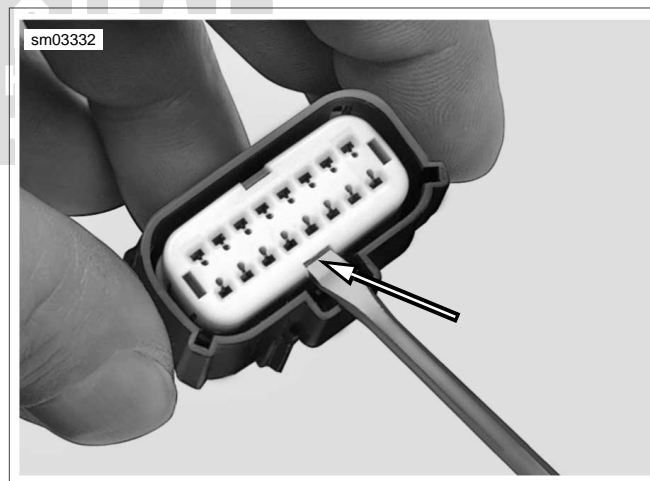

Figure A-23. Secondary Lock Pry Slot (Socket Housing)
- a. **Socket Housing:** See Figure A-23. Use a small screwdriver in the pry slot. The slot next to the external latch provides a pivot point.